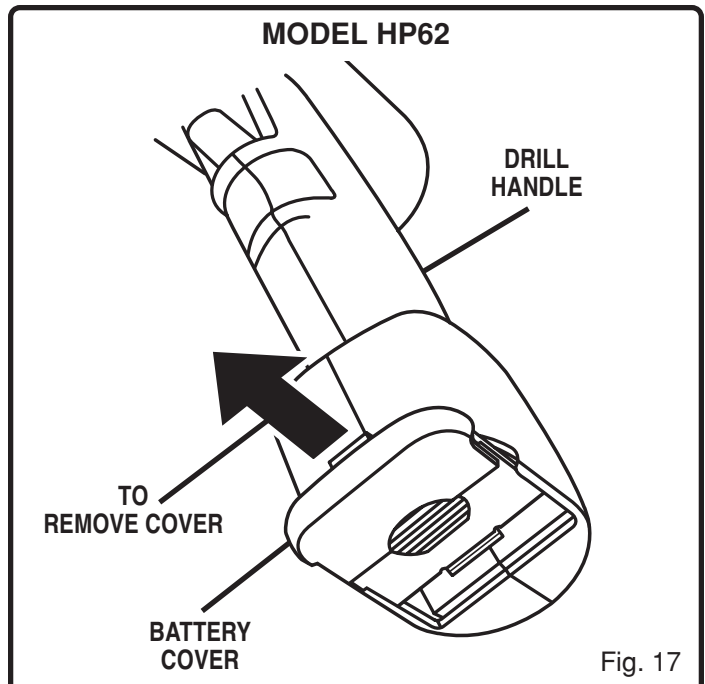

Fig. 17
See Figures 17 and 18.
- Remove battery cover from bottom of drill handle by depressing and pushing cover in the direction of the arrow as shown in figure 17.